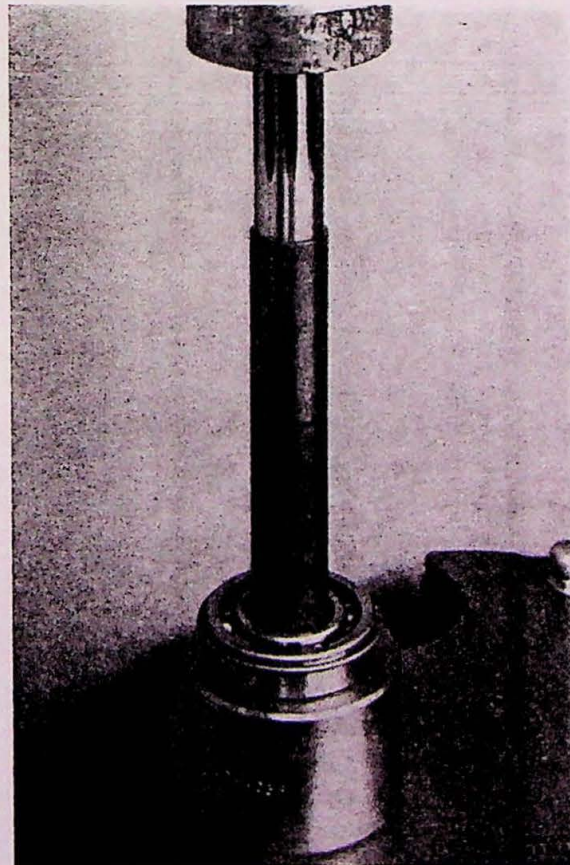

Fig. 10.
3. Remove the front ball bearing snap ring (26) and press off the bearing in a press. Support with SVO 4038, fig. 10.